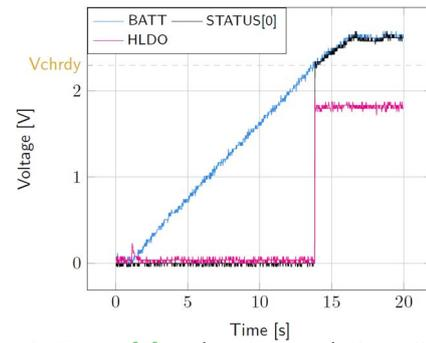

Figure 3: STATUS[0] and HVOUT evolution with BATT
- BATT: Voltage rises as the power provided by the source is transferred to the storage element (see Figure 3).
- HVOUT/LVOUT: Regulated when voltage on BATT first rises above V_{CHRDY} (see Figure 3).
- STATUS[0]: Asserted when the LDOs are ready to be enabled (refer to the AEM30940 datasheet “Normal Mode” section) (see Figure 3).